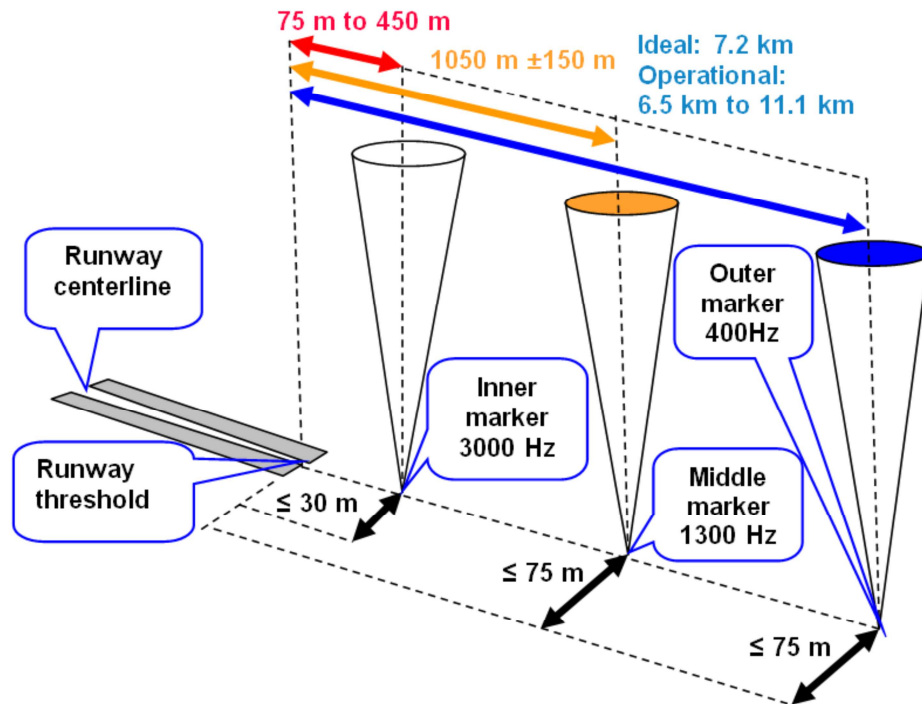

Figure 14: Marker beacon placement with respect to runway
Marker beacon (MB) receivers decode audio and provide signaling output to identify one of three marker beacons installed near the runway. The markers are placed as shown in Figure 14 above, in accordance with International Civil Aviation Organization (ICAO) Annex 10 Volume I Radio Navigation Aids.